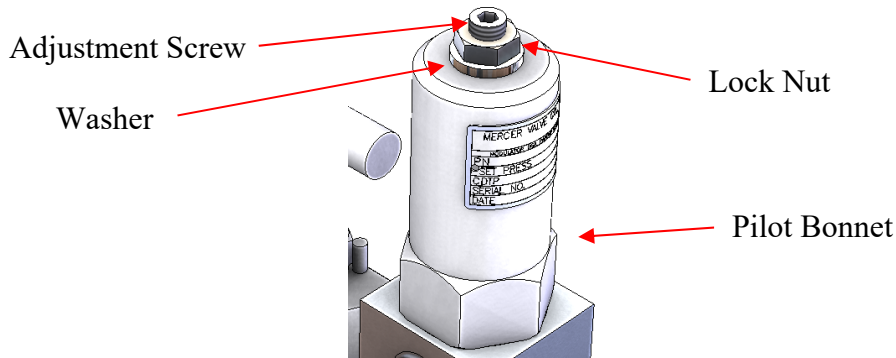

Figure 25: Pilot Bonnet
6. Loosen the lock nut from the adjustment screw. See Figure 25.